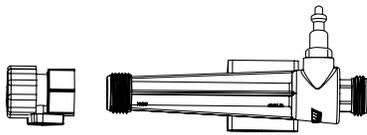

Figure 1
- (c) Screw the black connector on the end of the breathing tube onto the COLD side of the HCT Tube (**Figure 1**). Tighten firmly.
7. Turn flow control valve to adjust the flow and temperature of incoming air (**Figure 1**).